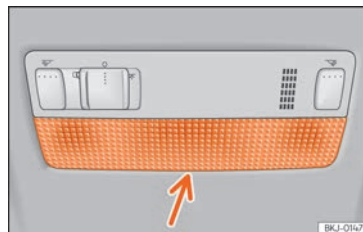

Fig. 63 Front reading light.
- Insert a fine screwdriver between the casing and the glass » **Fig. 63.**